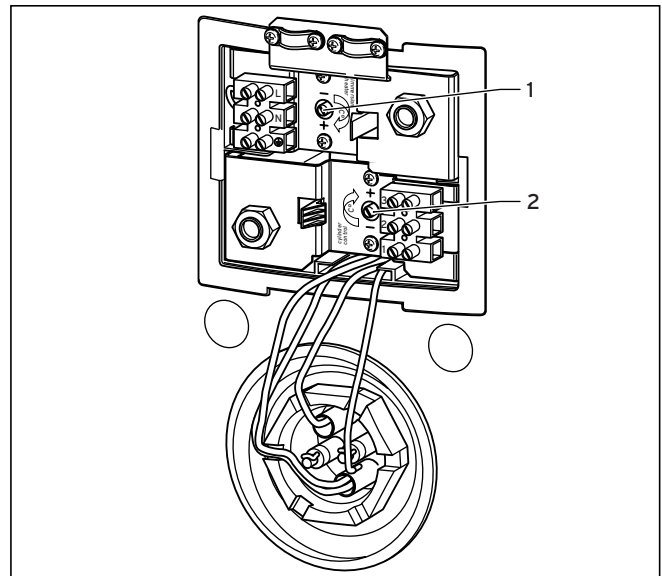

Fig. 6.4 Setting thermostats
- Set the knob of the hot water thermostat of the solar cylinder (2, Fig. 6.4) and immersion heater (1, Fig. 6.4) to the middle position (about 45 °C) for start-up and to achieve maximum energy efficiency.
If the hot water temperature is controlled via the build-in cylinder thermostat, set the according knob (2, Fig. 6.4) to 45 °C.
Set the thermostat of the immersion heater (1, Fig. 6.4) to the desired temperature.